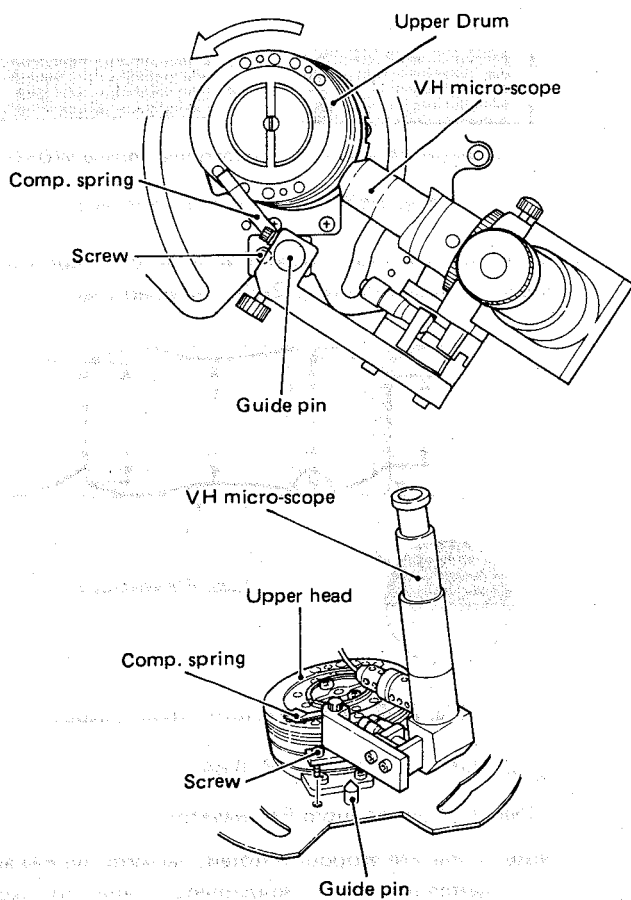

Fig. 2-59 VH microscope setting
- 1) Set the VH microscope (PUJ42990) on the guide pin as shown in Fig. 2-59.